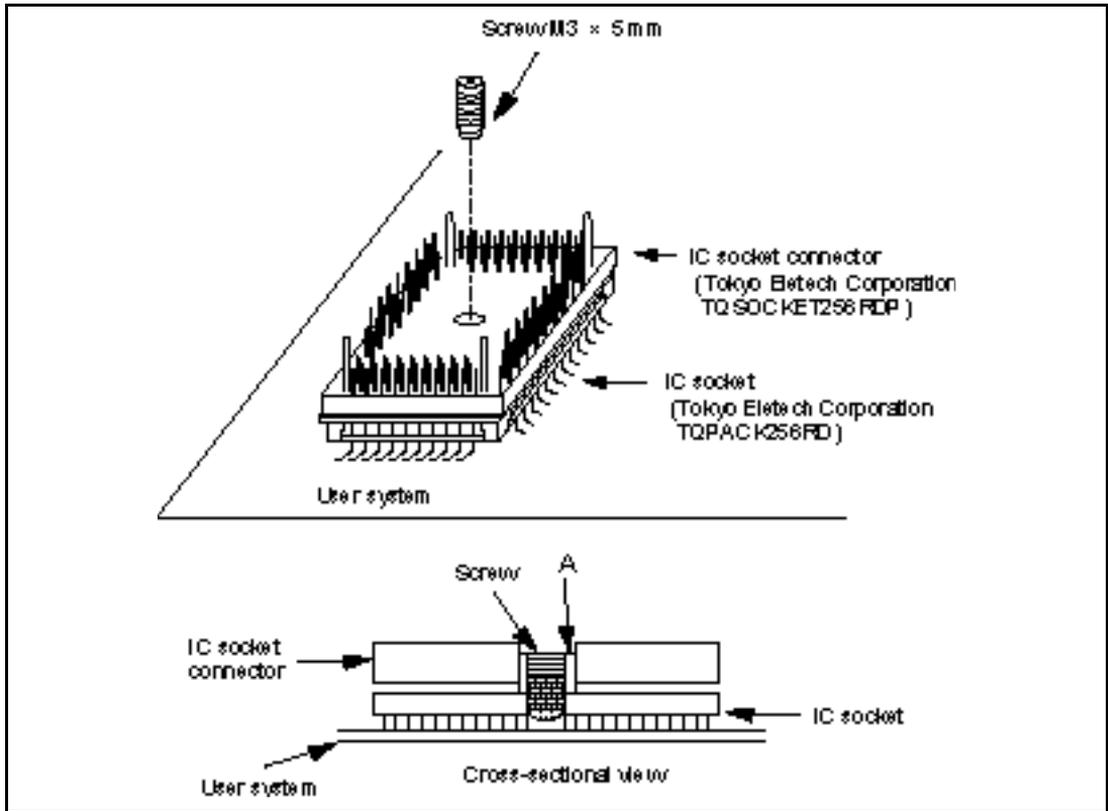

Figure 4 Fastening IC Socket Connector
Fasten the IC socket connector to the IC socket with the screw (M3 x 5 mm) provided (figure 4). Take special care, such as manually securing the IC socket soldered area, to prevent the soldered IC socket from being damaged by twisting the components.
- 2. Stop tightening when the top of the screw reaches the top surface (point A in the cross-sectional view in figure 4) of the metal section around the screw hole. If a screw is tightened too much, the screw head may break or the user system may be damaged.**